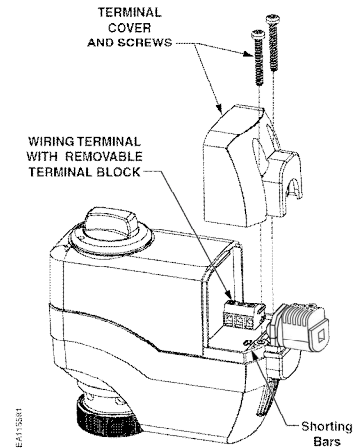

Figure 2. Manually Clearing Calibration Stroke from Memory.
3. With power applied to the unit, insert and gently twist a flat-blade screwdriver to electrically connect the shorting bars (Figure 2). The SSC61x then performs a new calibration stroke.